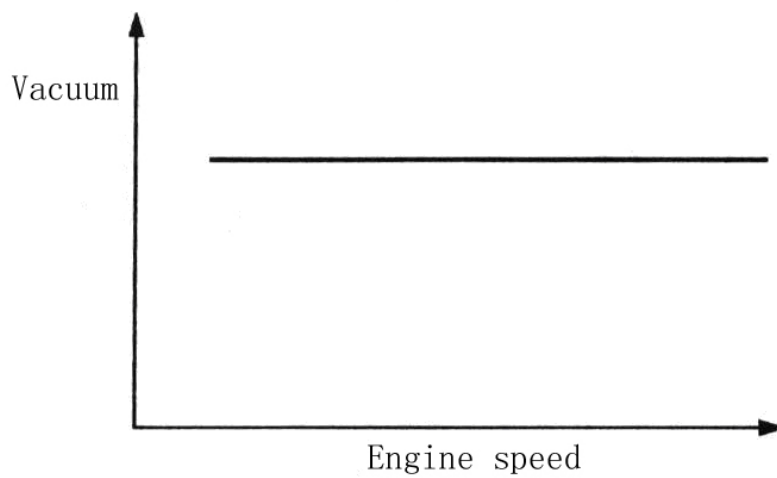

Fig. 10-11
- Start the engine, and check that the vacuum remains fairly constant after racing the engine. If vacuum changes, it is possible that the throttle body purge port may be clogged and require cleaning, see Fig.10-11 .